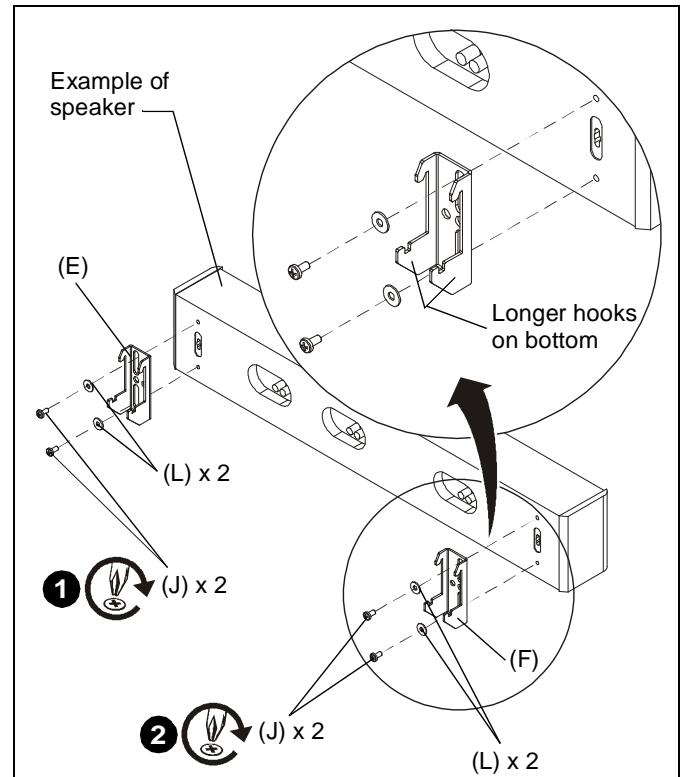

Figure 9
1. Attach one center channel hook (E) to back of speaker (left side) using two 1/4-20 x 1/2" Phillips pan head screws (J) with two 1/4" washers (L). (See Figure 9)
NOTE: Ensure that longer hooks are at bottom of speaker. (See Figure 9)
2. Repeat with other end of speaker and the remaining center channel hook (F). (See Figure 9)